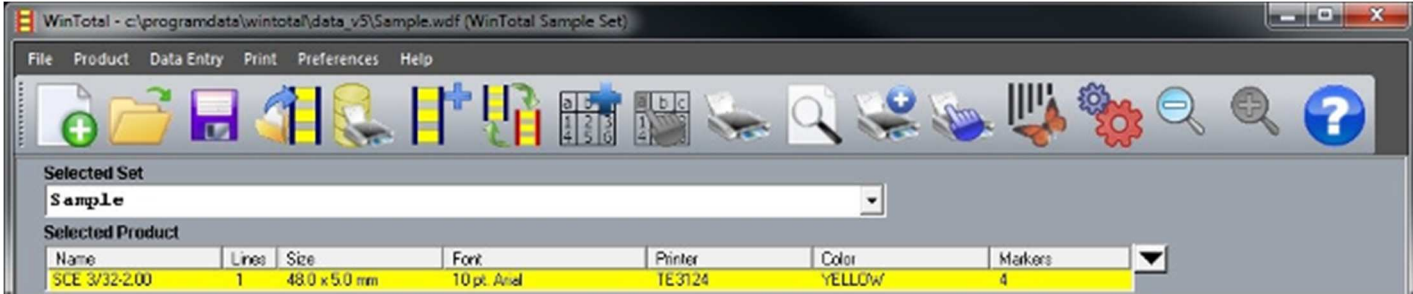

Figure 4
- Left click on a marker to select or deselect a Legend to work with. A selected Legend is displayed with a box around it (Legend No. 2 in the **Figure 4**).